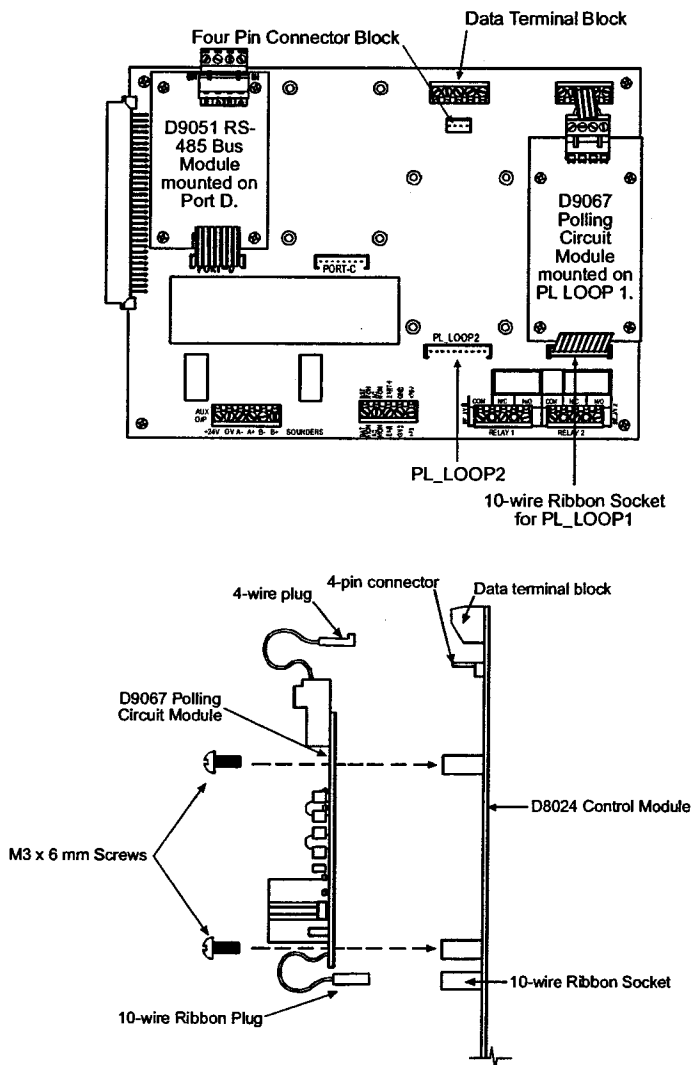

Figure 1: D9067 - D8024 Mounting
- 2) Mount the D9067 on the D8024 Control Module using the provided standoff pillars. Begin on the right side of the board in the slot labeled PL LOOP 1. See Figure 1.
- 3) Connect the D9067's ten-wire ribbon plug into the ten-wire ribbon socket on the D8024 Control Module. The female four-wire plug at the top of the D9067 plugs into the four-pin block below the dedicated screw terminal block on the D8024 Control Module. See Figure 1.